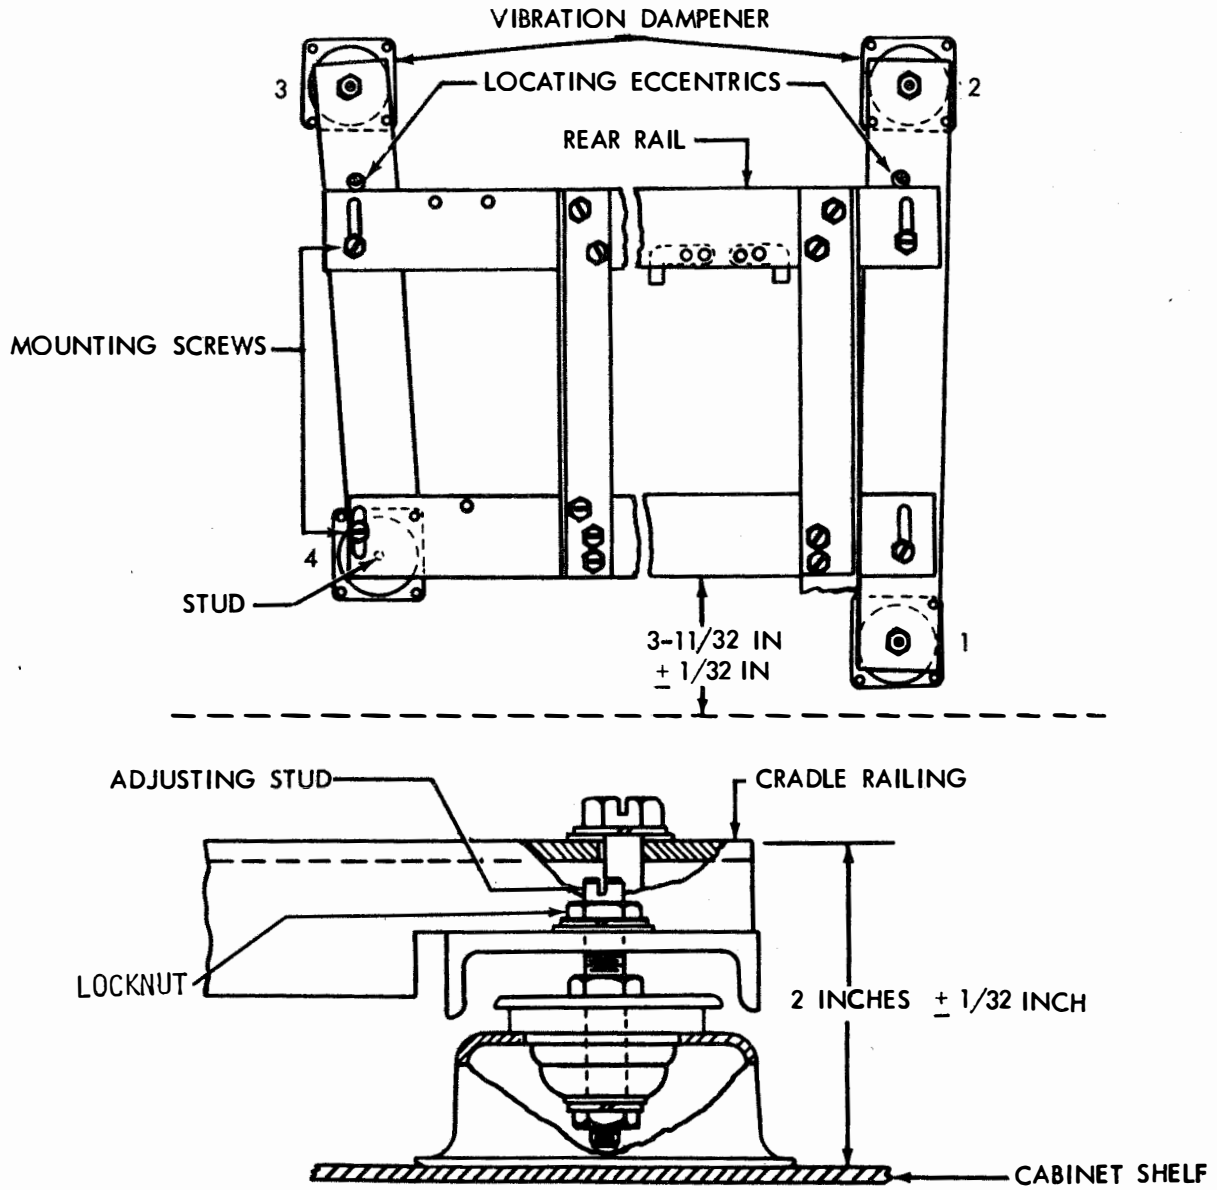

Figure 6-353. Cradle
(1) Refer to Figure 6-353.
(3) To adjust, loosen window retainer mounting screws and position window. Tighten screws.